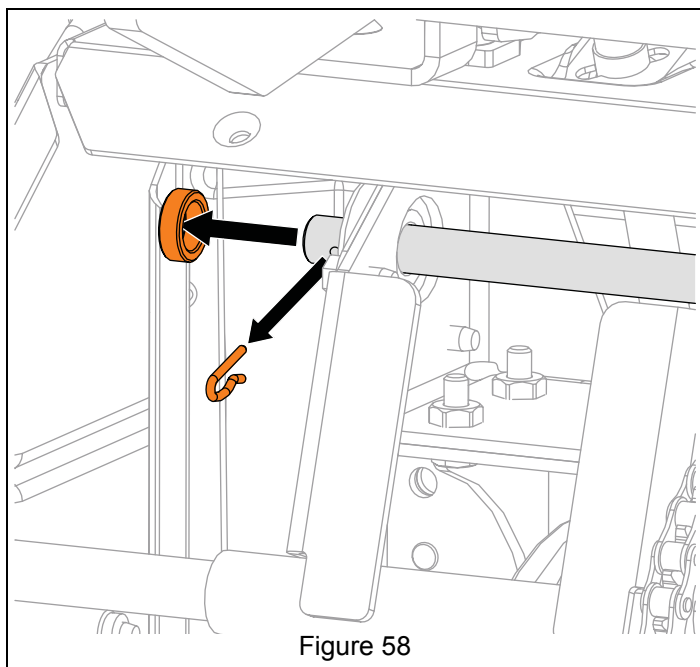

Figure 58
3. Reinstall traction drive clutch cable and return spring onto swing gate. See Figure 58.
4. Remove spring clip and sleeve bushing from reduction shaft end. See Figure 58.